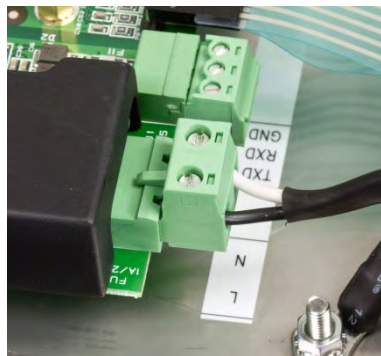

Figure 2-6: AC Wire Termination
14. Reconnect the black/brown and white/blue AC power wires to the terminal plug on the main board, in the location indicated in Figure 2-6.
A permanently attached line cord supplies the AC power to the AC version of the IND246 terminal. Note that the two AC power connections are marked "L" for line (hot) and "N" for neutral as shown in Figure 2-6. A loop terminal is provided on the ground wire for the ground connection.